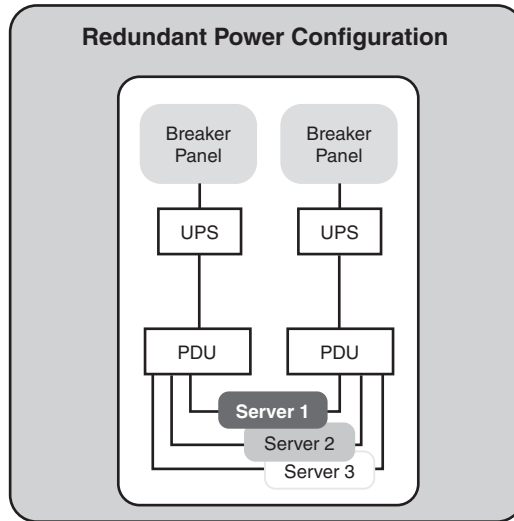

FIGURE 10.1 Here you see a completely redundant power infrastructure, from the servers/hardware components all the way back to the breaker panels.
- Primary power for each redundant power supply should culminate in redundancy at the breaker boxes as well. That is, each power supply should ultimately receive its power from a dedicated breaker panel, like that illustrated in Figure 10.1.